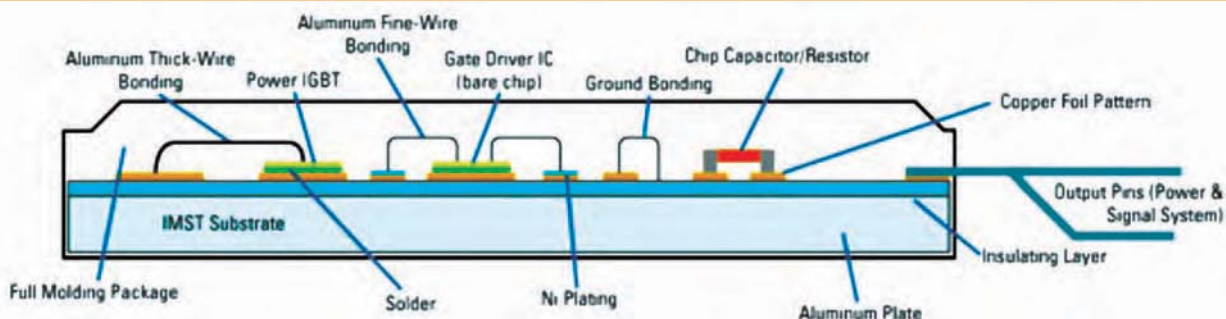

Figure 4: The International Rectifier IPM integrates digital circuitry with high power drivers
International Rectifier (IR) has solved the challenges of cost-effective brushless motor design with its IPM (Intelligent Power Module), featuring high integration and IR's proprietary three-phase gate driver and high efficiency trench IGBT technology, shown in **Figure 4**, in a single in-line package. One IPM replaces more than 20 discrete components and IR has used insulated metal substrate technology for high thermal performance and reduced EMI. This creates a complete power stage solution for energy-efficient appliances and light industrial equipment driven by variable speed motors. Available modules are optimised for power ratings from 400W up to 2500W.